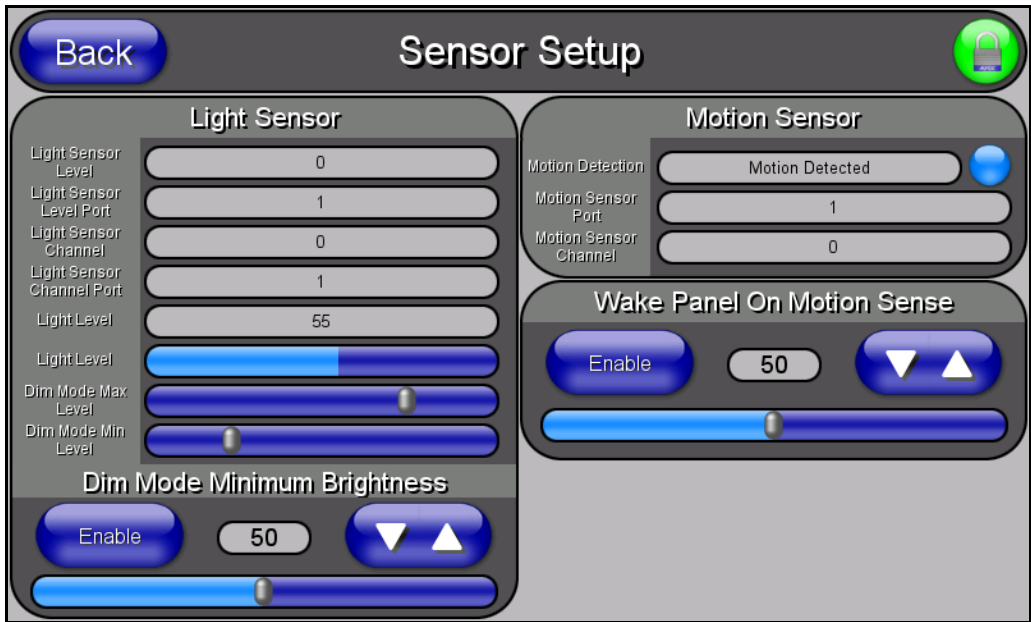

FIG. 81 Sensor Setup page
The Sensor Setup page (FIG. 81) allows you to adjust the Light and Motion Sensor parameters on a Modero touch panel.
3. Open the Sensors Setup page (FIG. 81) from the Protected Setup menu section.